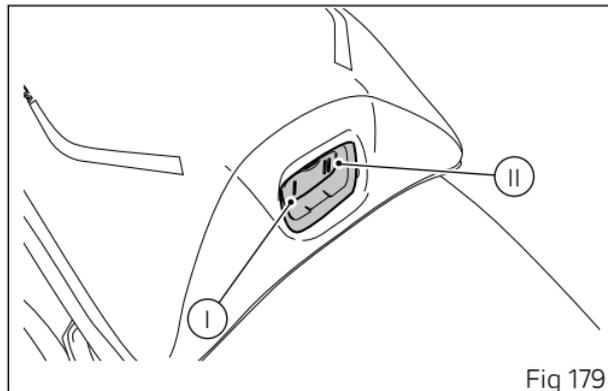

Fig 179
- position (I, Fig 179) to set the level to "Low";
- position (II, Fig 179) to set the level to "High".